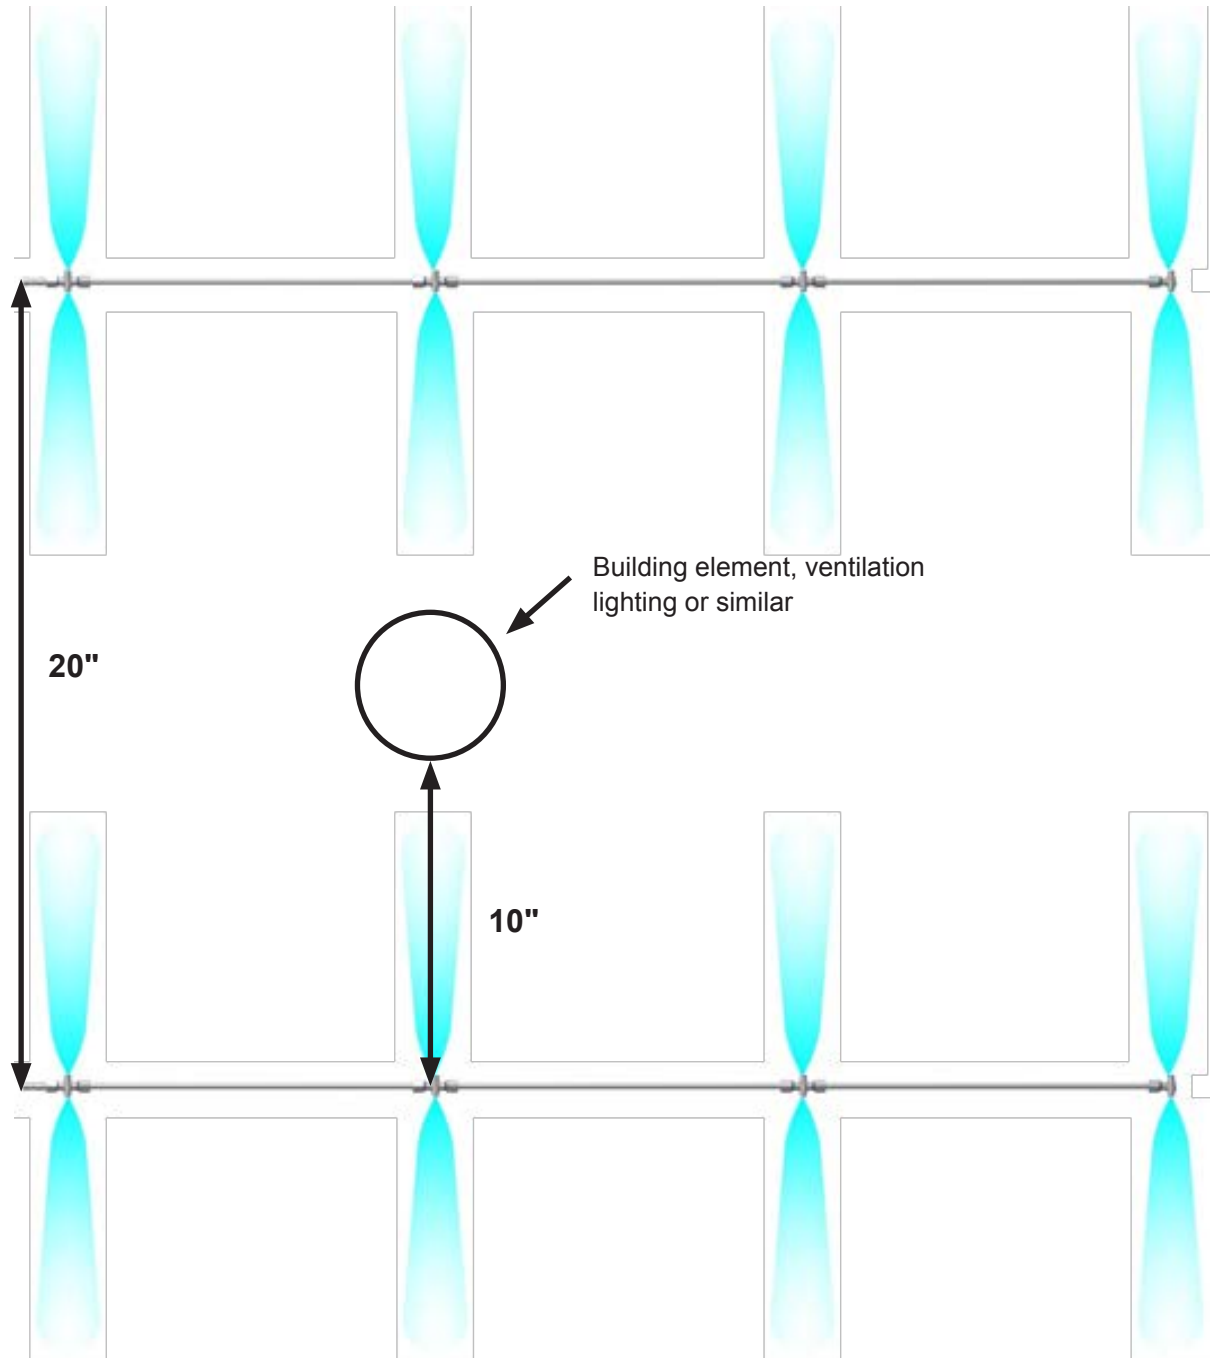

Figure 27: Distances between modules
The positioning of a system is always determined during planning and noted in the system documents. Prior to mounting the Nortec ML Flex humidification units, ensure that all hose layouts, distances between heads and atomization clearances have been considered and adhered to, as per Figure 27.
- Figure 27 shows the recommended clearances, of the expansion of the atomization stream, and the clearances that have to be maintained. These are ideal and recommended capacities using ML nozzles under standard conditions. Different weather, climate and indoor conditions can alter the spread and distance of the mist
- As shown in Figure 27, when the nozzles and humidification heads are placed one opposite the other, make sure that a minimum distance of 20 feet is adhered to. This will avoid the streams to condensate each other.